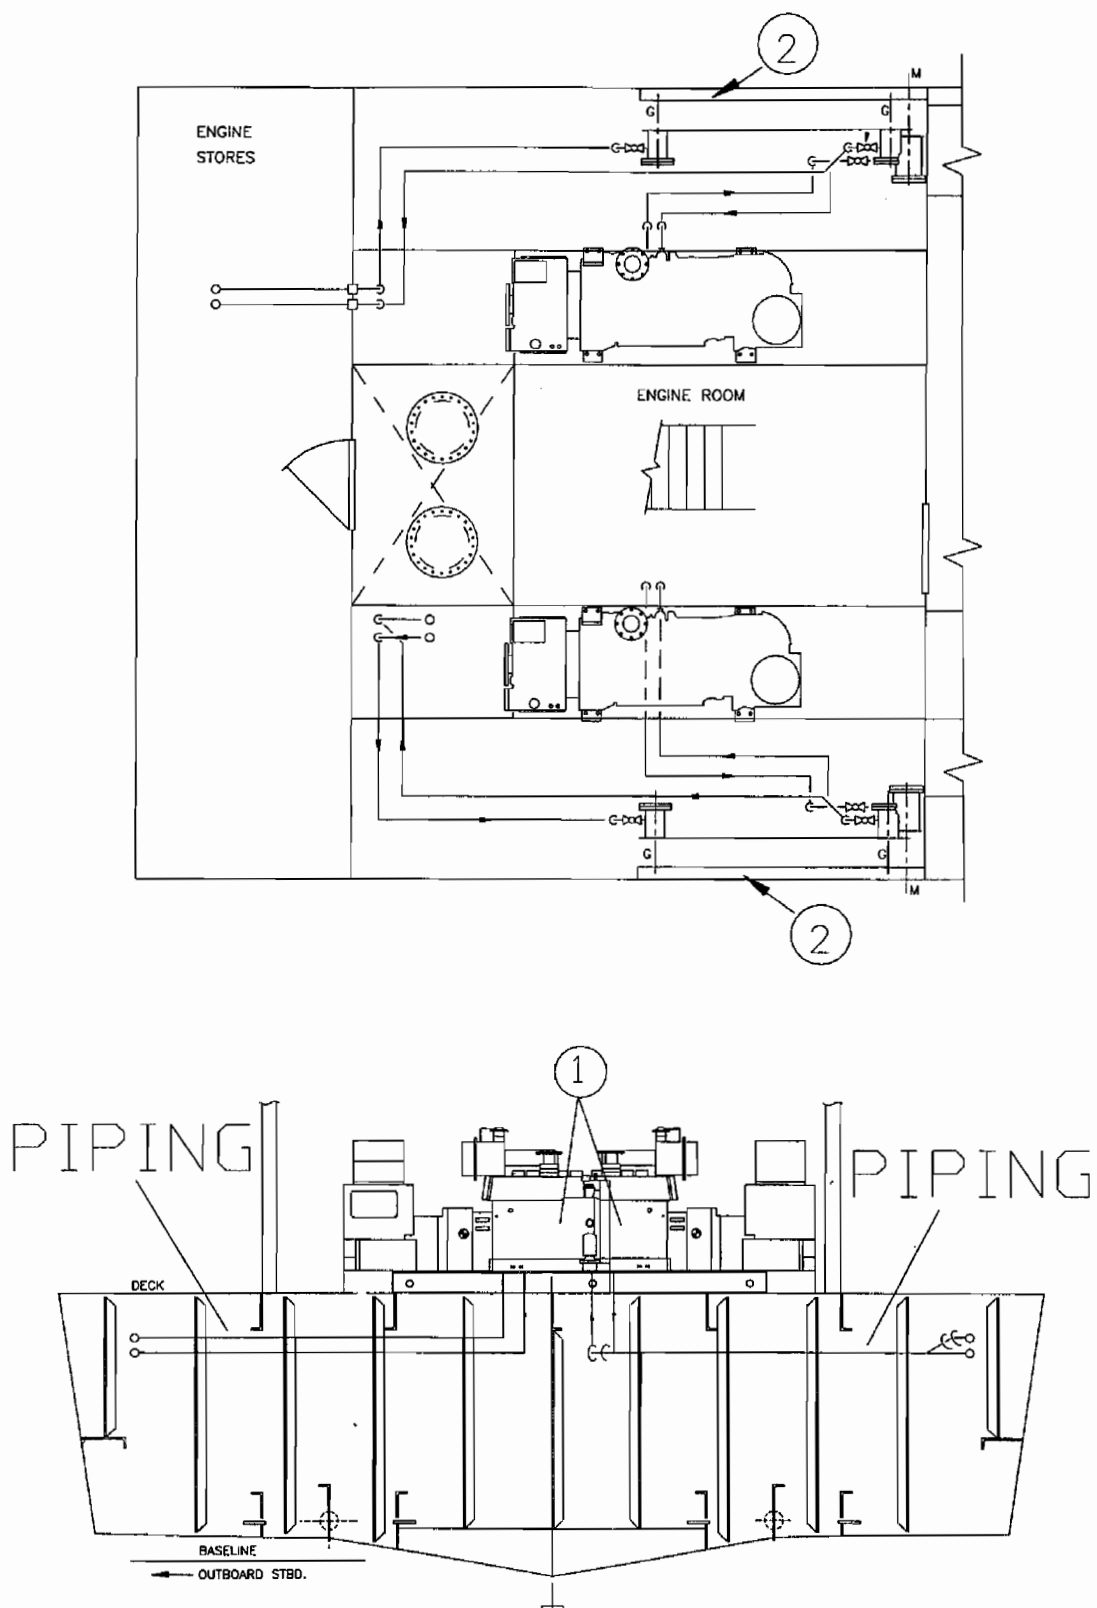

Figure 1-35. Generator Engine Cooling System
- 6 Cooling System. Figure 1-35 provides a plan view of the generator engine cooling system. The generator engines (1) are coupled to the fresh water grid coolers (2). The grid coolers are recessed into the vessel's hull. Fresh water from the engines is pumped